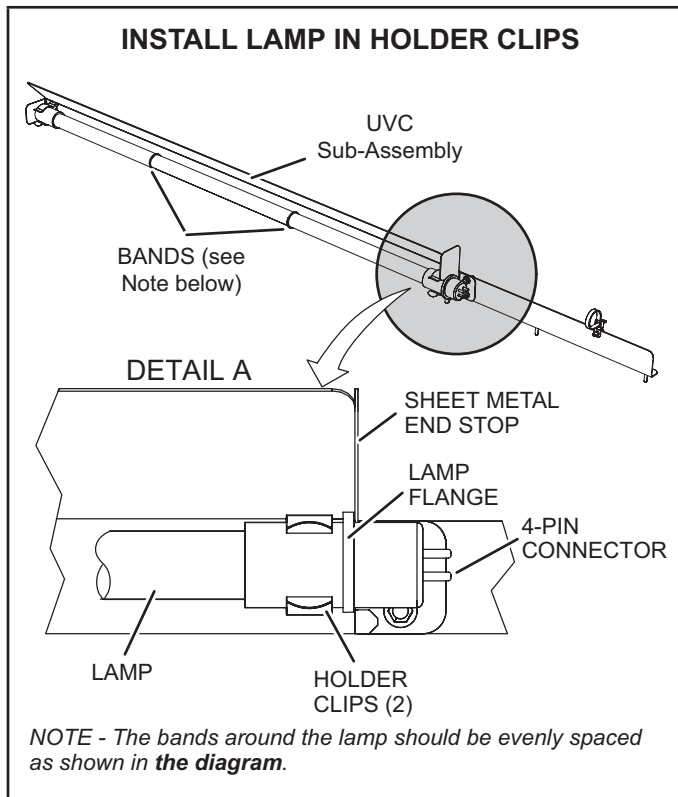

FIGURE 36
- 7 - Wear cotton gloves or use a cotton cloth when handling the new lamp. Place the new lamp in the holder clips of the UVC assembly. Verify that the lamp flange at the connector end is sandwiched between the lamp holder clip and the sheet-metal end stop (see FIGURE 36).